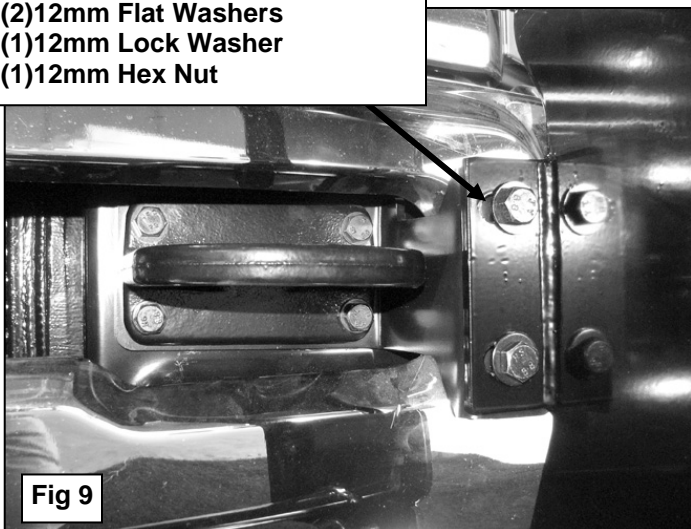

Fig 9
7. With assistance, position the Grille Guard up to the Top Mounting Brackets. Use the included (4) 12mm x 40mm Hex Bolts, (8) 12mm Flat Washer, (4) 12mm Lock Washers and (4) 12mm Hex Nuts to attach the Grille Guard to the Top Mounting Brackets, **(Figure 9)**. Insert the lower brackets on the Grille Guard through the openings cut into the splash guard in **Step 5**. Trim plastic as necessary to properly clear brackets. Snug but do not tighten hardware at this time.